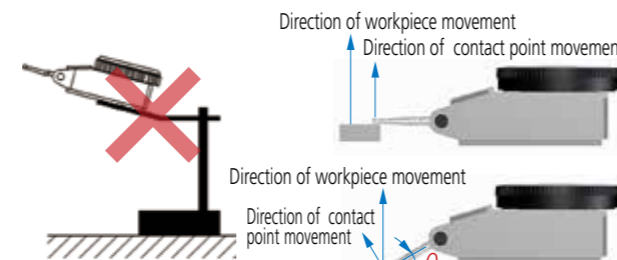

Fig. 3
1. Use a holding fixture that will not deflect significantly during normal use. (Fig. 3)